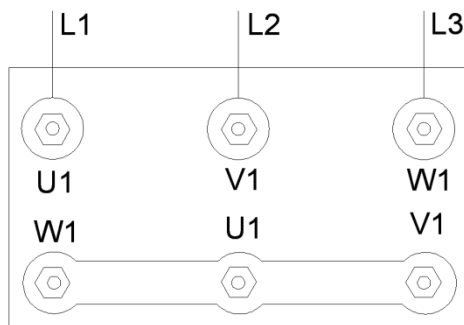

Figure 8- Engine star connection
5.6.3. Motor connection type is given in the figure 8.